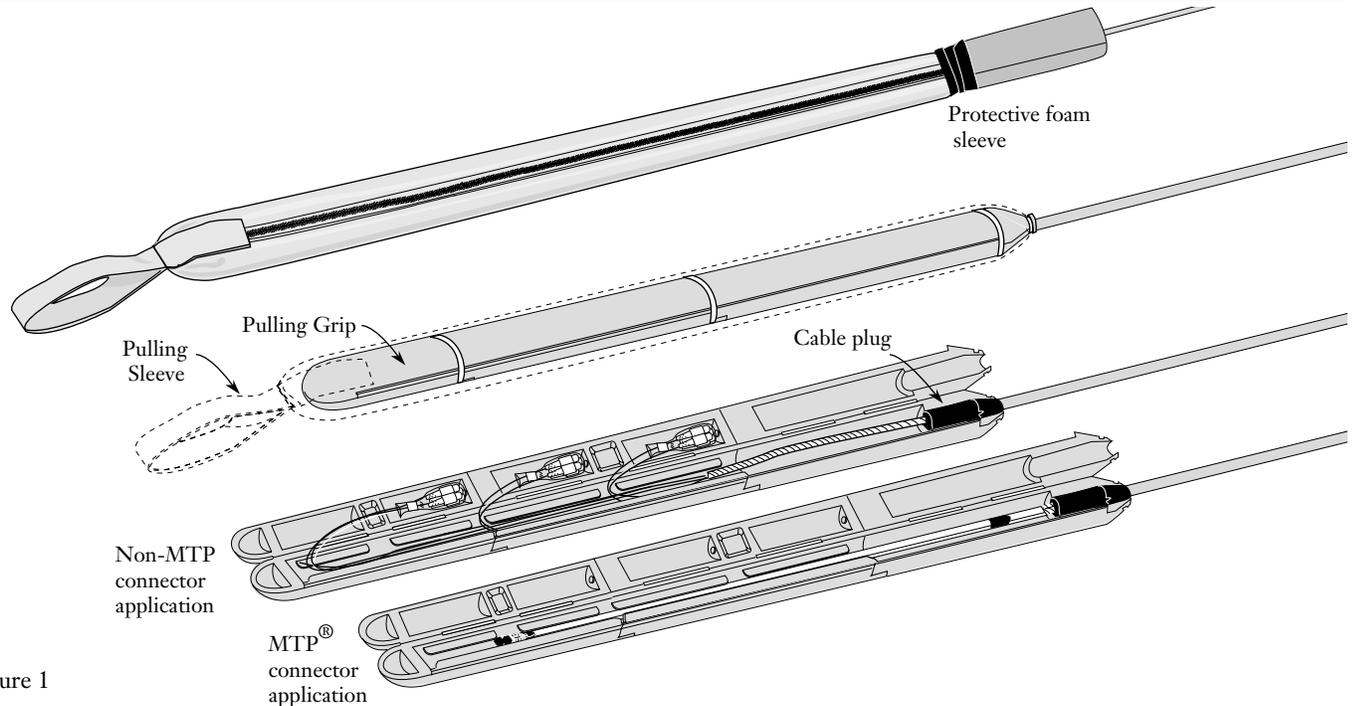

Figure 1
1.2 4-24 fiber Plug & Play systems pulling sleeves and grips protect the connectors and their fibers by coupling the pulling load back to the cable (Figure 1). After the preconnectorized cable is pulled into place, the grip and sleeve which encases the connectors and fibers may be saved for future re-use.